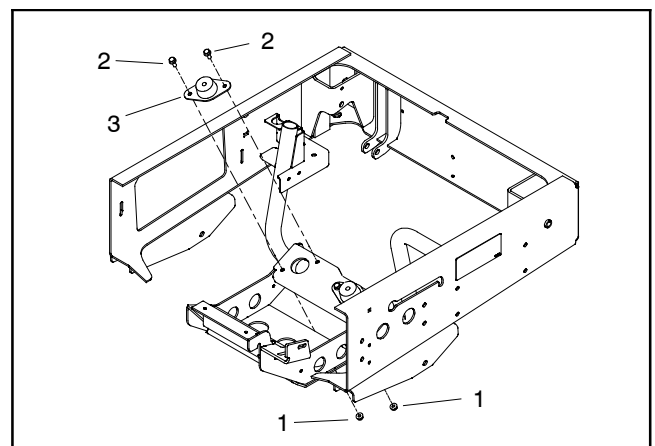
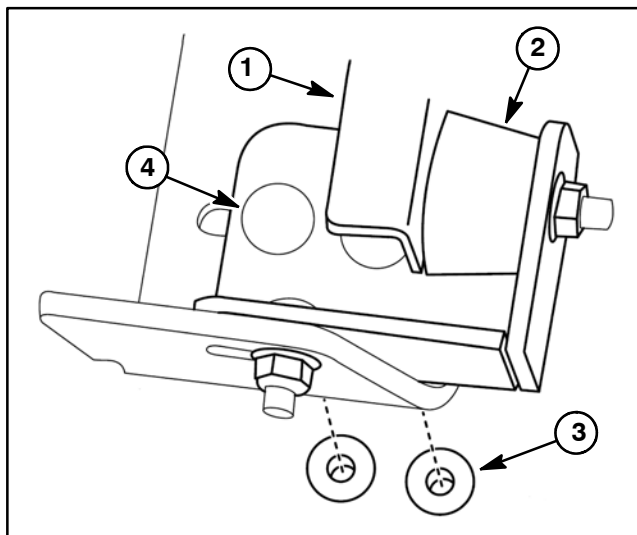

Figure 15
Figure 16
15. Inspect engine mounts (Fig. 15) and bumper assembly (Fig. 16) for wear or damage and replace components if necessary.
12. Check that the gap between the rubber bumper and front engine bracket is **0.090" (2.2 mm)** (Fig. 16). If gap is incorrect, loosen three (3) lock nuts and adjust bumper to provide correct gap. Tighten lock nuts to secure bumper after adjustment.